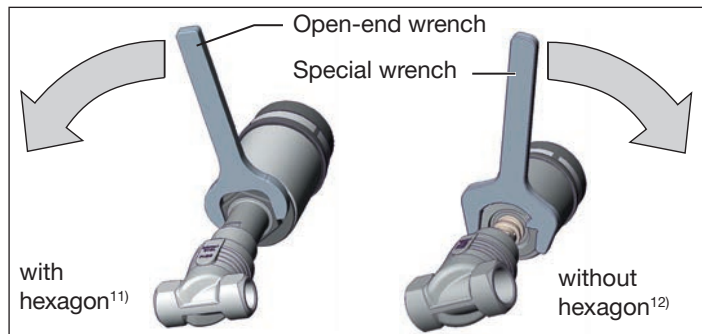

Fig. 14: Rotating with special key / open-end wrench
- ▶ Rotate the actuator module in the specified direction only (see "Fig. 14")!